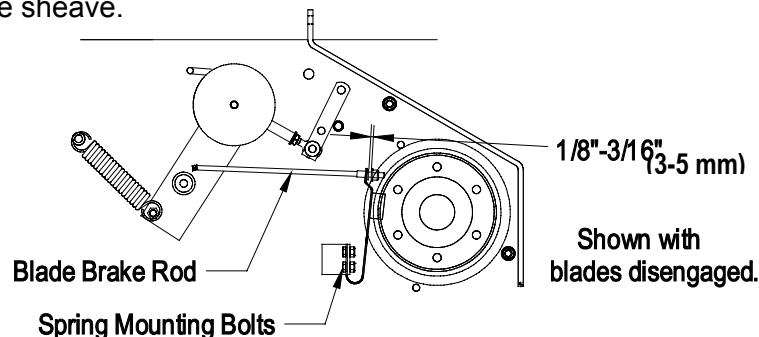

**FIGURE 21
- Check the adjustment of the lower blade drive linkage located between the bellcrank on the engine deck and assist arm on the mower deck. Lengthen or shorten the linkage. When properly adjusted, there should be 1/16" to 1/8" (2 – 3 mm) of clearance between bell-crank and transmission output shaft when belt is engaged. Make sure the assist arm is against the rear assist arm stop on the deck (See Figure 21). Push the lever down to the disengaged position. The assist arm should contact the front assist arm stop on the deck. If it does not contact, readjust so that the bellcrank is closer to the transmission output shaft.
- c) Belt must be tight enough to not slip during heavy loads while cutting grass. Overtensioning will reduce belt and spindle bearing life. To adjust belt tension, loosen the 5/16" whizlock nut on turnbuckle and rotate the turnbuckle; rotate turnbuckle toward rear of mower to tighten, and toward front of mower to loosen belt tension (See Figure 21). Leave a minimum of 5/16" (.79 cm) of the eyebolt threads engaged on both ends of the turnbuckle.
For 48" Decks: If there is no adjustment left in the turnbuckle and the belt is still loose, the rear idler pulley can be repositioned in the front hole (See Figure 21). The belt guide located next to the pulley must also be repositioned in the front hole when the pulley is moved. The turnbuckle will need to be readjusted.
- d) Proper belt tension will require about 10 lbs. side pull on belt, halfway between pulleys (See Figure 21, Point A) to deflect belt 1/2" (12 mm).